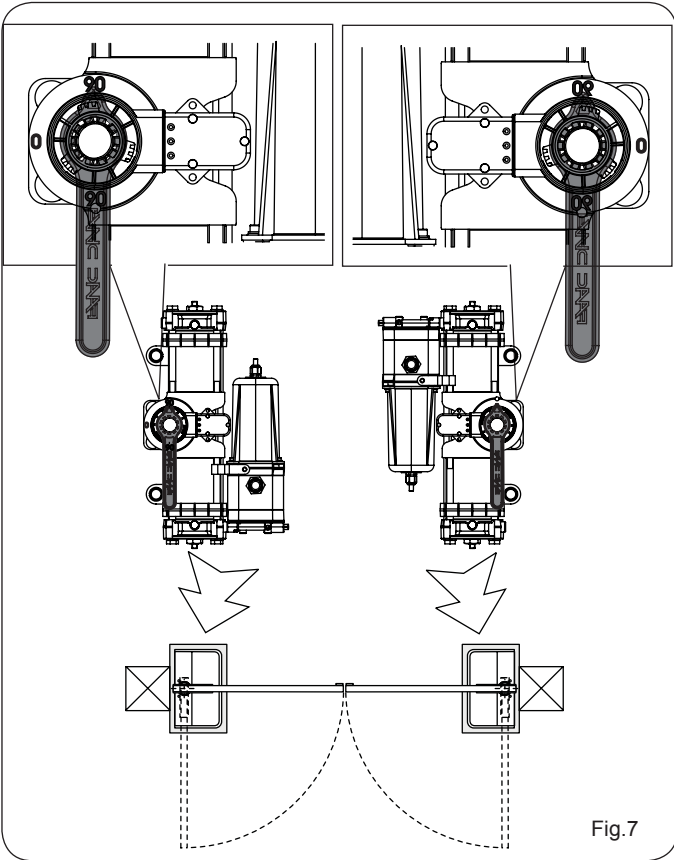

Fig.7
RATOR (Fig. 7)
7) Turn the operator pinion with the supplied wrench until the mark point to 90° and then remove the wrench (see Fig. 7)